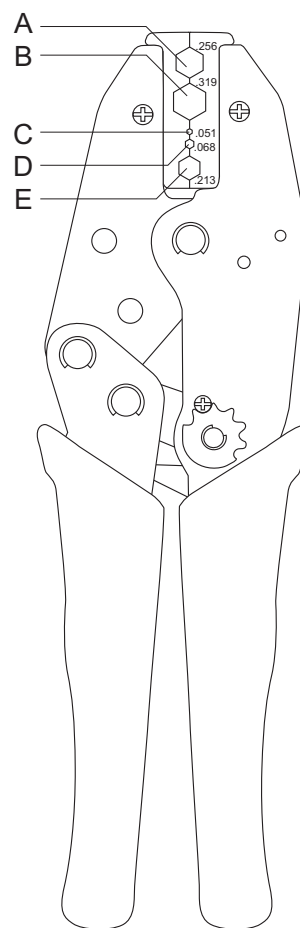

Figure 8. Motorola Crimping Tool 66-80388A26
Use Motorola tool part # 66-80388A26 (Refer to Figure 8).
4. Crimp center contact using crimp area C of Figure 8. Crimp at base of center contact, avoid crimping at the tip. Refer to Figure 9.